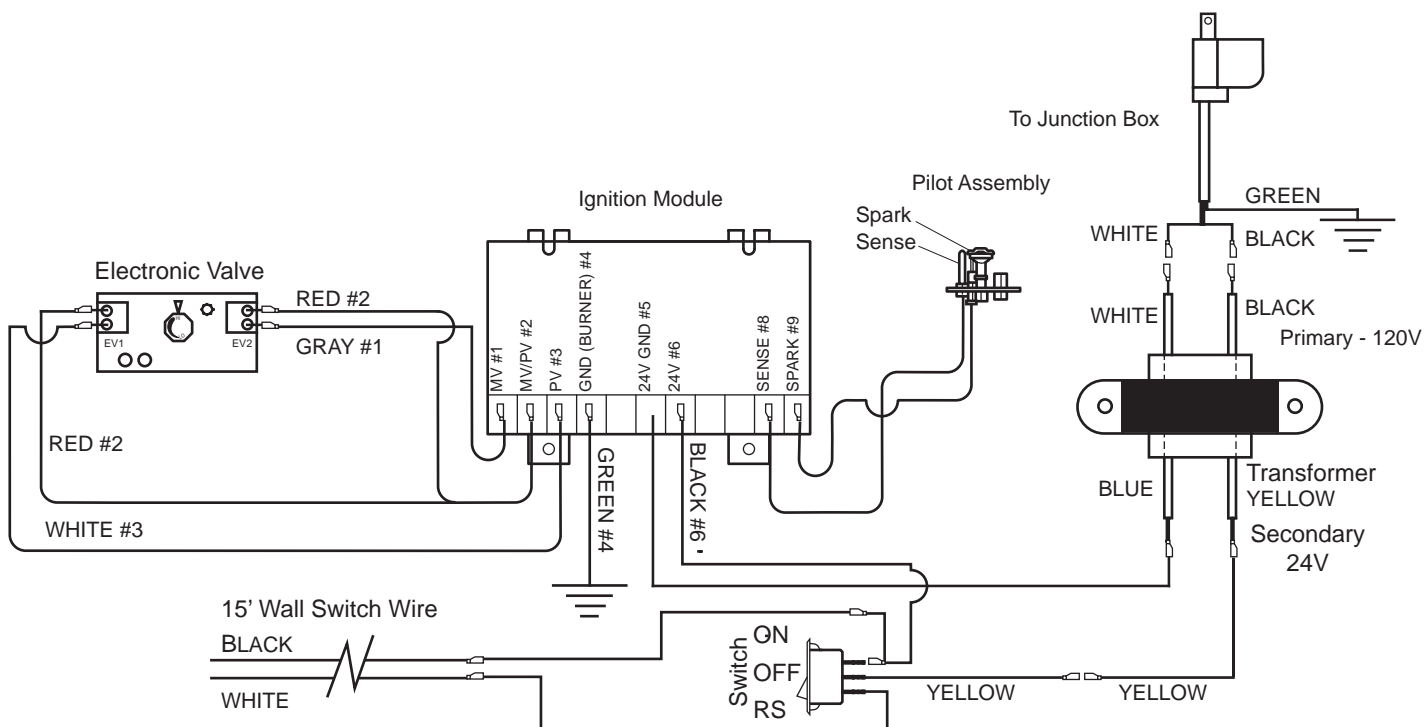

Figure 37 - Remote Wall Switch Wiring Diagram
2. Connect the wire terminal from the remote receiver. This replaces the 15' wall switch connection to the switch. See *Figure 37*.